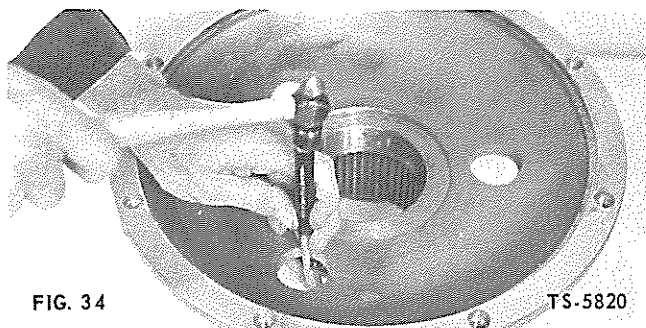

FIG. 34
2. If it is damaged, drive bearing cone from hub (Fig. 34).